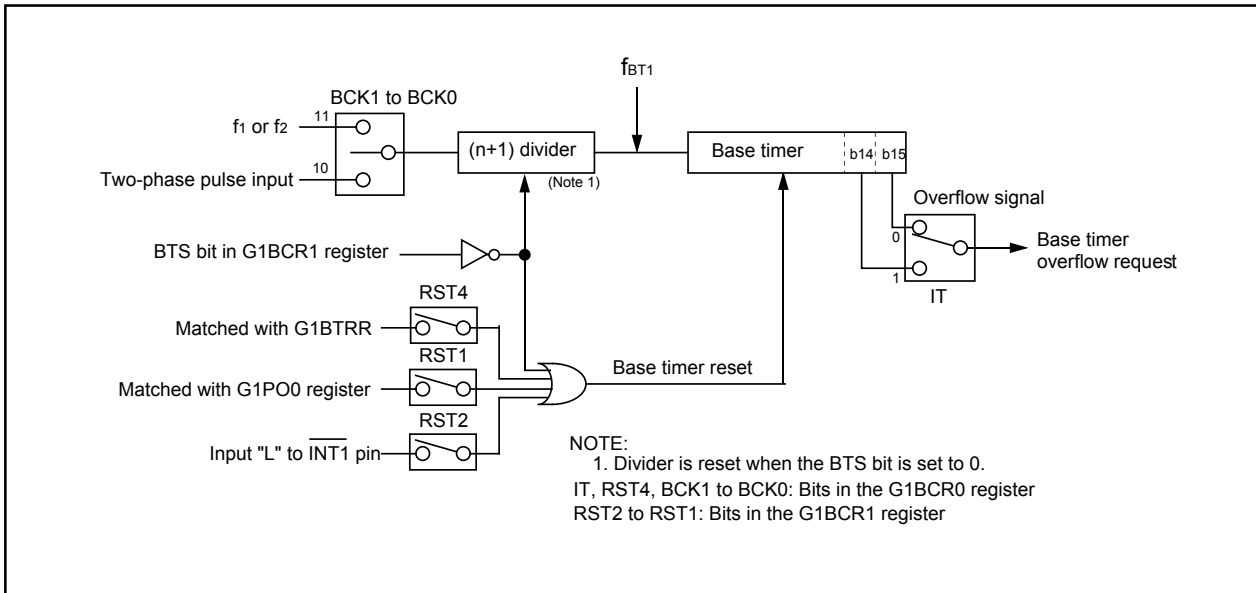
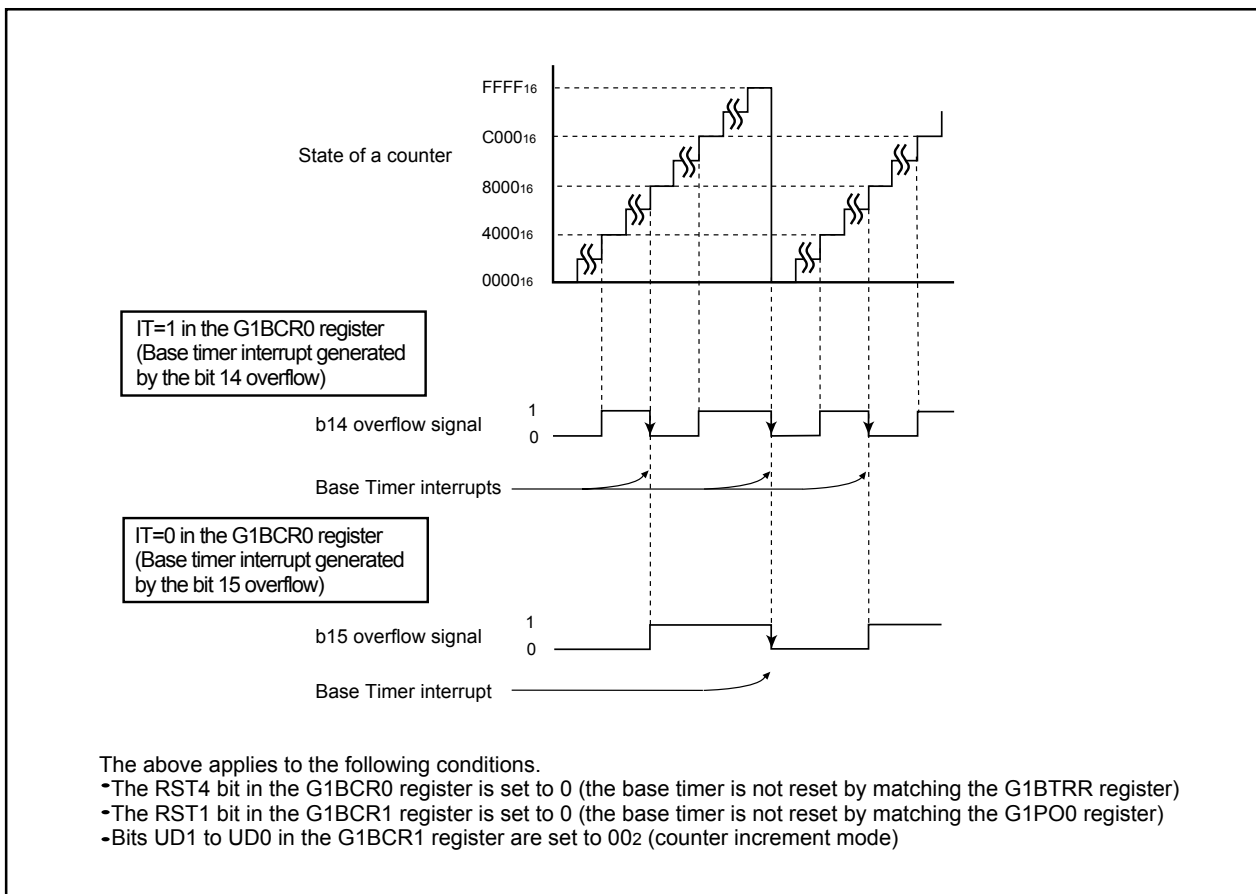
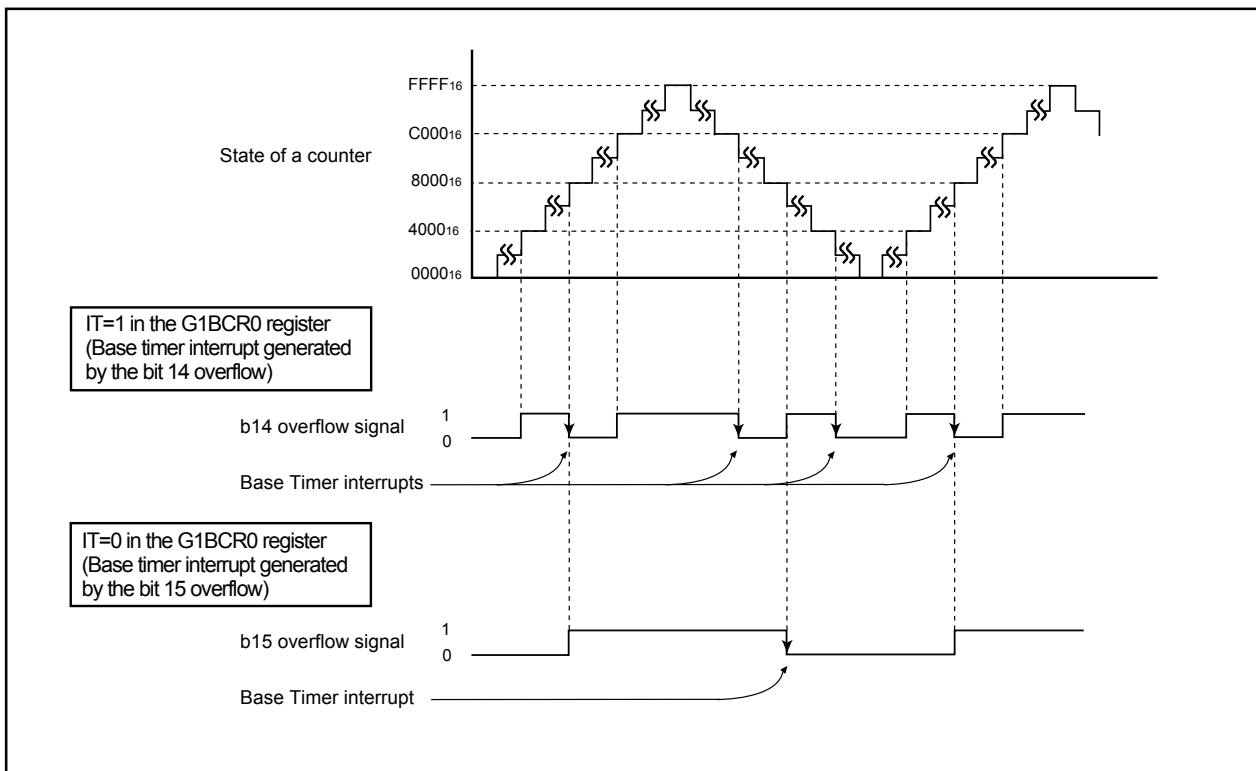
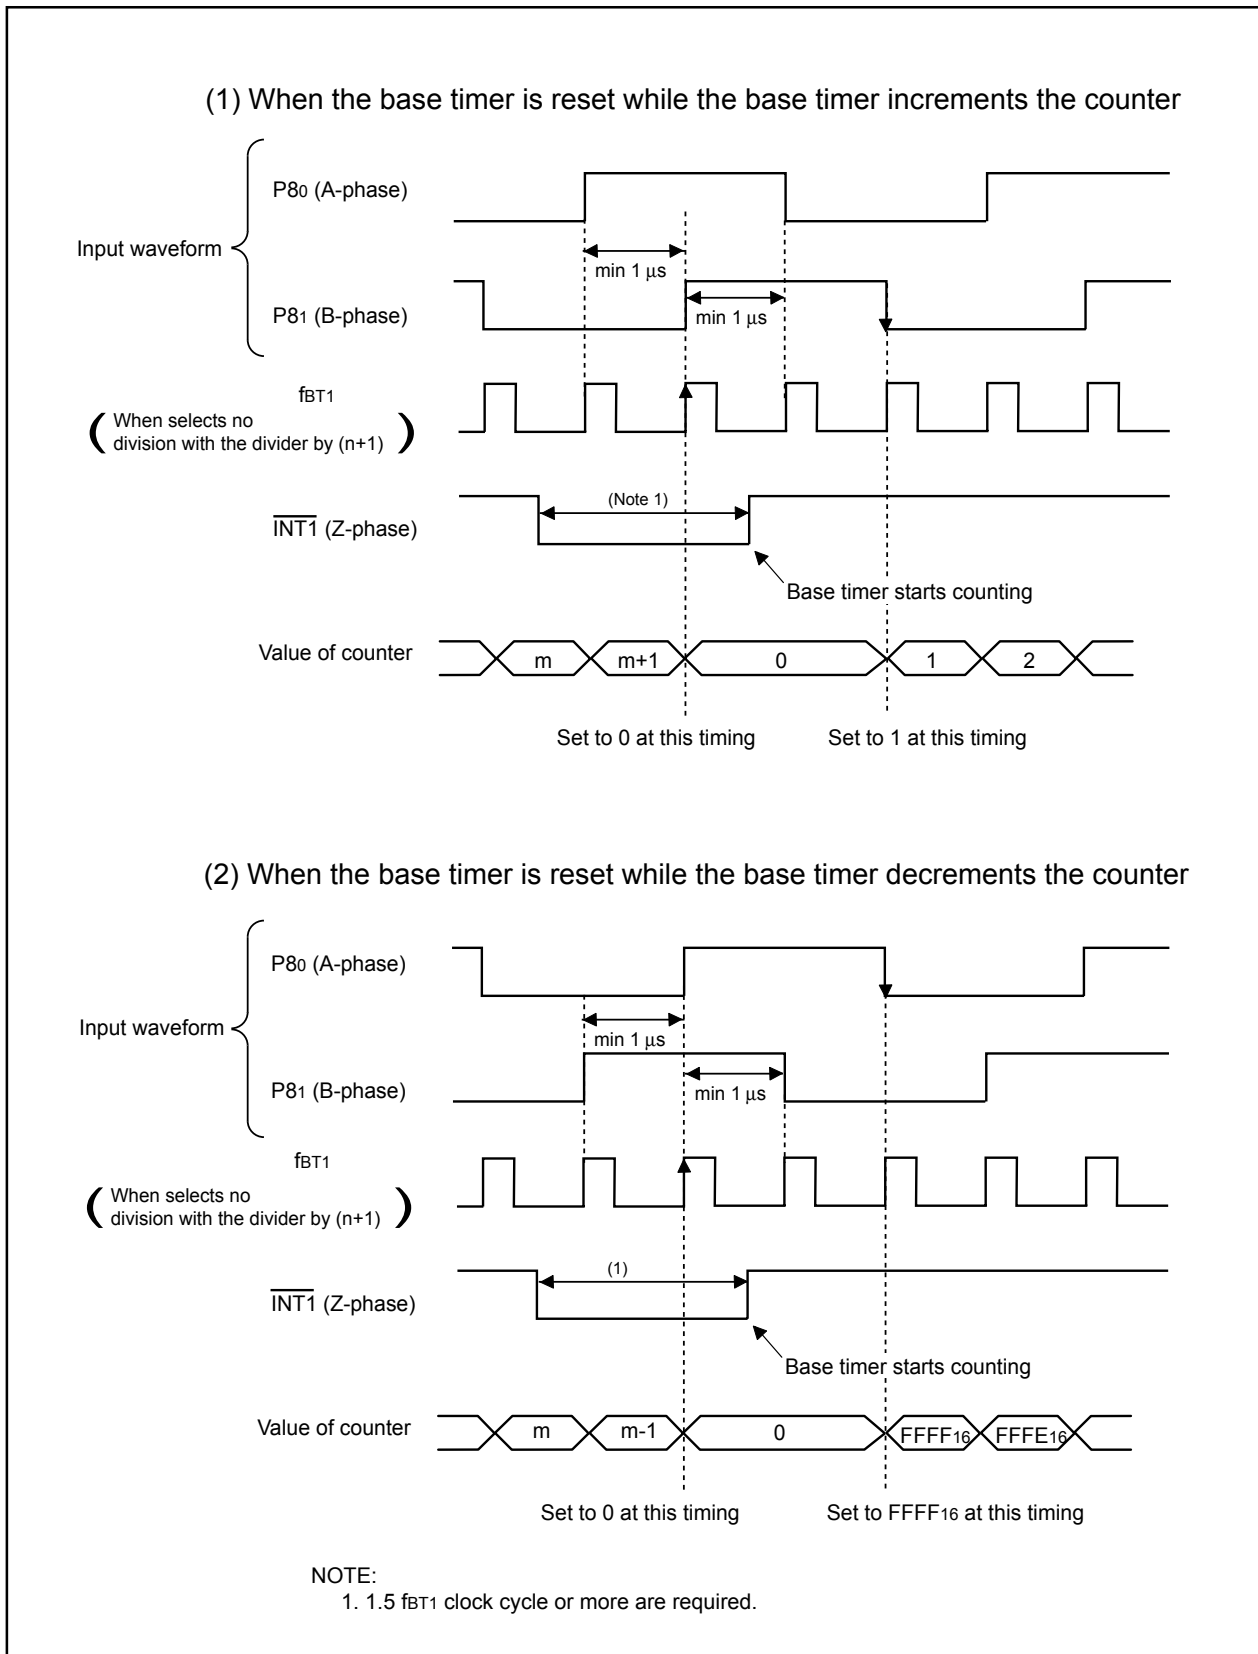

Figure 13.11 Base Timer Block Diagram
Figure 13.12 Counter Increment Mode
Figure 13.13 Counter Increment/Decrement Mode
Figure 13.14 Base Timer Operation in Two-phase Pulse Signal Processing Mode
**Figure 13.11** shows a block diagram of the base timer. **Figure 13.12** shows an example of the base timer in counter increment mode. **Figure 13.13** shows an example of the base timer in counter increment/decrement mode. **Figure 13.14** shows an example of two-phase pulse signal processing mode.
Selectable function	<ul style="list-style-type: none"> <li>Counter increment/decrement mode The base timer starts counting from 000016. After incrementing to FFFF16, the timer counter is then decremented back to 000016. The base timer increments the counter value again when the timer counter reaches 000016. (See Figure 13.13)</li> <li>Two-phase pulse processing mode Two-phase pulse signals from pins P80 and P81 are counted (See Figure 13.14)</li> </ul>